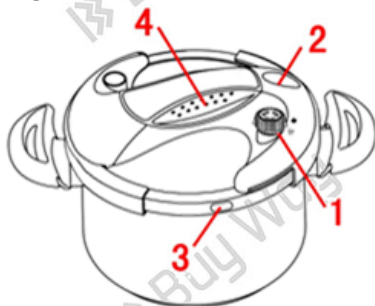

Fig.6
For an easier and safer use, this product is produced and equipped with a multi-safety device system (Fig. 6).
2. The multi safety device ensures that the pressure cooker is working normally and safely. (Fig.6)